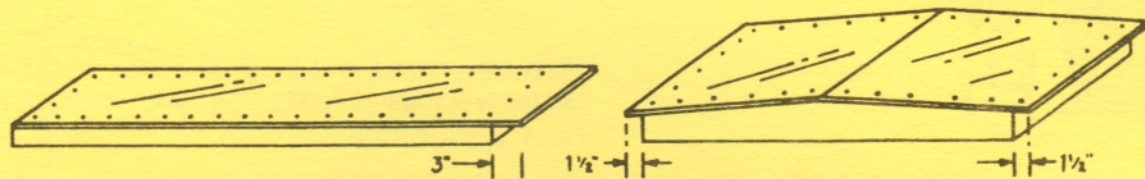

**FIGURE 1. LOCATION & INSTALLATION OF STEEL BUMPERS**
1. To locate steel bumper take width of unit (Dimension A, Fig. 1, 11' 6" is standard but may vary in your unit), find center line of door and measure outward  $\frac{1}{2}$  of unit width, plus one inch on each side (see Fig. 1). This will give you the outside edge of steel bumpers. Outside-to-outside of bumpers will be width of unit, plus two inches. Install so top of bumper is level with dock floor.